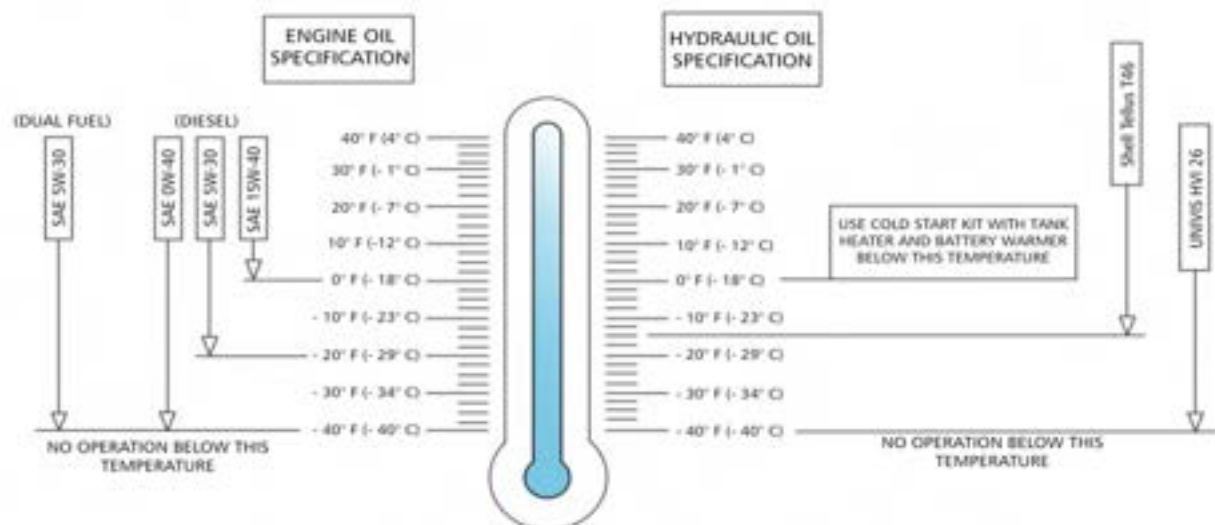

Figure 12 Cold weather operation chart
- Use the correct hydraulic and engine oils (refer to Figure 12).
- Find the **heater plug** ① in the engine compartment.
Refer to the cold weather operation chart (Figure 12) to help when you operate the MEWP in cold weather conditions.